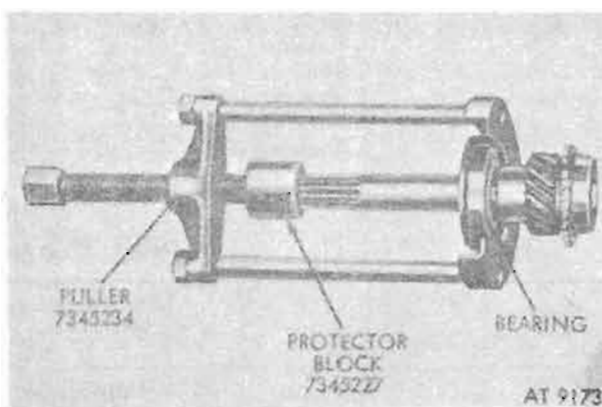

Figure 8-40. Removing bearing from input shaft.
- d. Install puller (7345234) with protector block (7345227) as shown in figure 8-40, and pull bearing from input shaft.